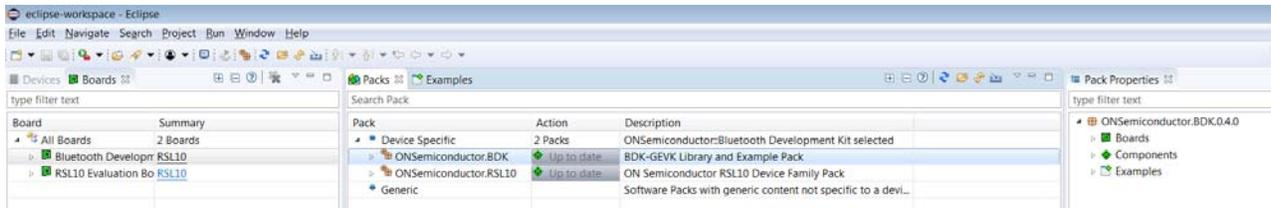

Figure 7.
- Once the two packs are successfully imported, they can be viewed in the CMSIS pack manager perspective as shown below (Figure 7)